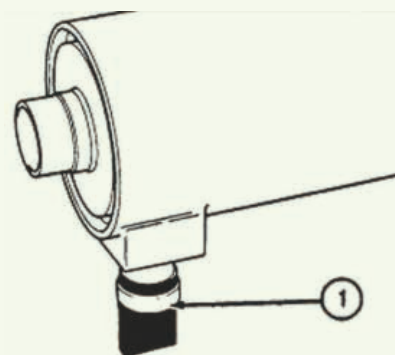

Figure 5.11.2 Air filter with dust valve (1)
Certain air filters have automatic dust valves through which dust is expelled from the filter (Figure 5.11.2). The rubber dust valve (1) must be kept clean. Ensure that the sides of the valves close completely together and that they can separate freely.